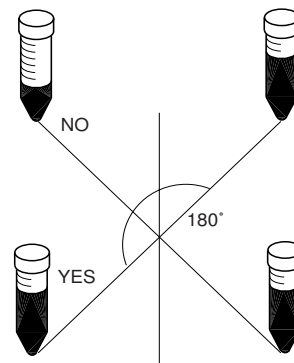

figure 3
5.2.4 To correctly distribute the load, tubes and adapters should be placed so that the load is symmetrically distributed with respect to the axis of rotation. (see fig. 3)